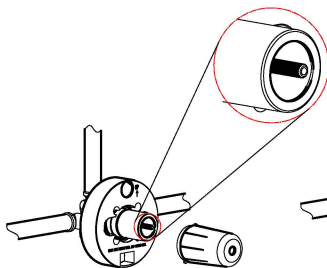

Fig .3
B. Remove the Tub&Shower plastic cap and cut the extension, the length will be 0.6"-0.65" .(see Fig. 3) .